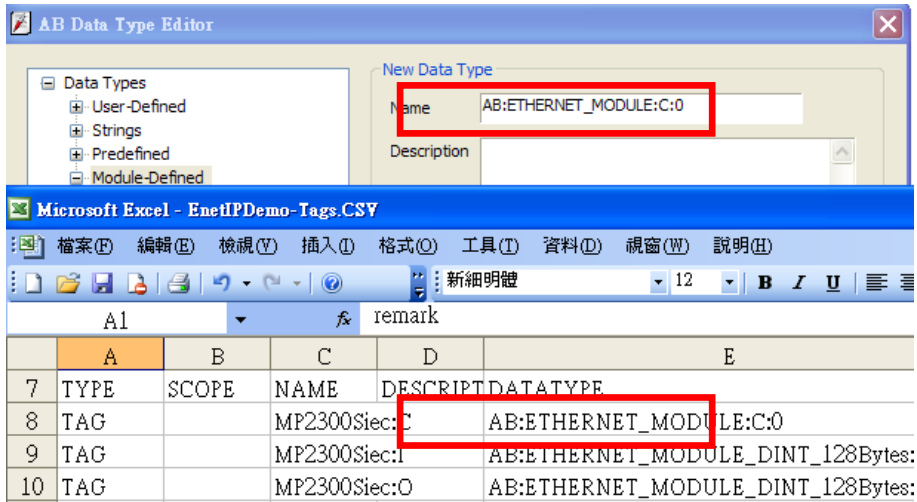
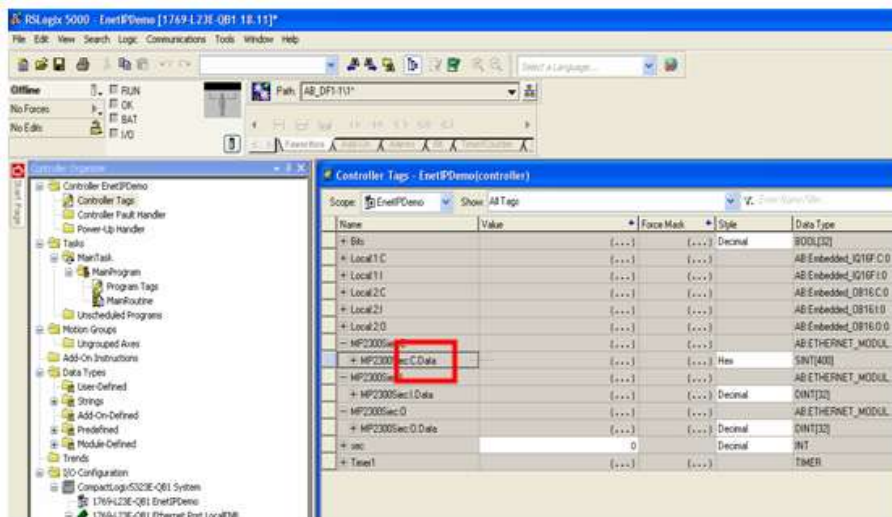
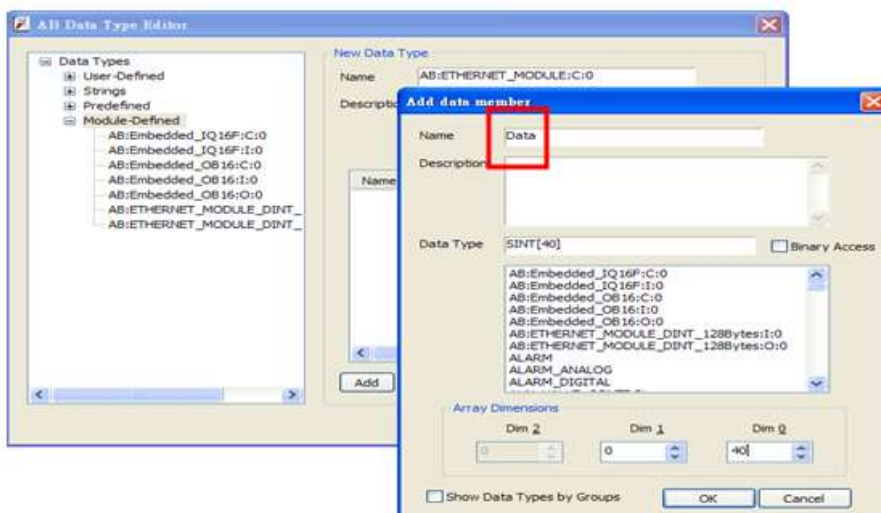
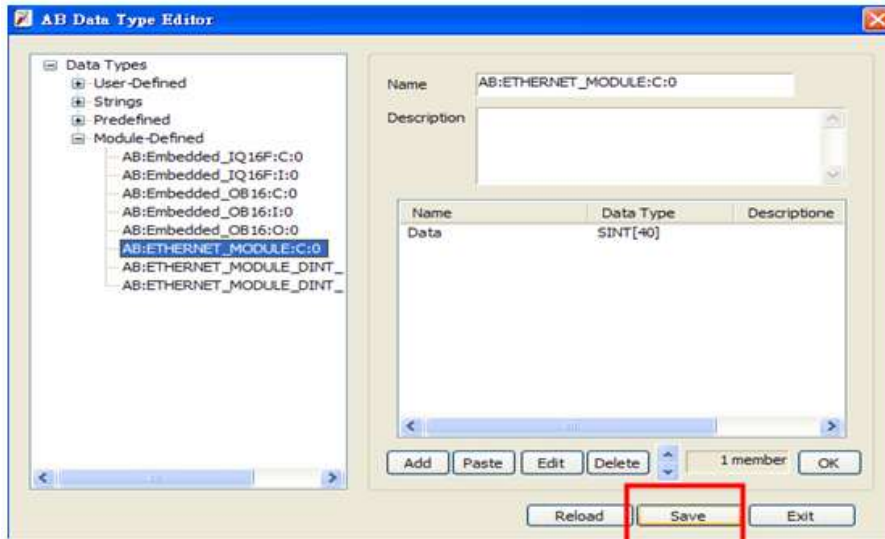

Fig.12 AB Data Type Editor
Fig.13 Tag Information
Fig.14 Add Data Member - Name Tag Information
Fig. 15 Add Data Member-Settings - Save
**Step 2.** As in Fig 12, in AB Data Type Editor add Name of the new data type. The Name must be set identically to the Data Type in Free Tag CSV file. As in Fig 14, Data Member Name must be set identically to the AB software (as Data in Fig. 13), then click [Save] (Fig. 15).